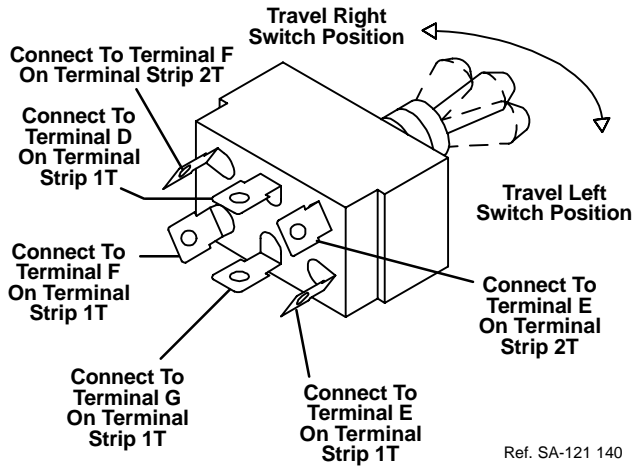

Figure 5-2. Switch Installation For Remote Travel Direction Control
5-4. REMOTE TRAVEL DIRECTION (Figure 5-2)
5. Connect one pole of switch as follows (see Figure 5-2):
6. Connect remaining pole of switch as follows (see Figure 5-2):